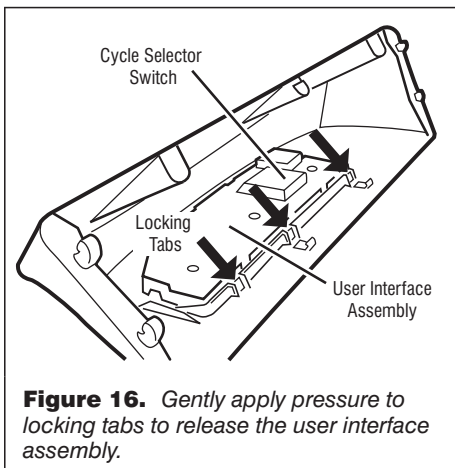

Figure 16. Gently apply pressure to locking tabs to release the user interface assembly.
6. Remove the cycle selector switch from the user interface assembly opening by lifting the locking tab on the cycle selector switch and turning the selector switch in a counterclockwise direction. See figure 16, page 12.
7. Locking tabs located at the bottom of the console insert panel secure the user interface assembly to the console insert panel. Using a flat-blade screwdriver, gently apply pressure to the locking tabs to release the user interface assembly. See figure 16.